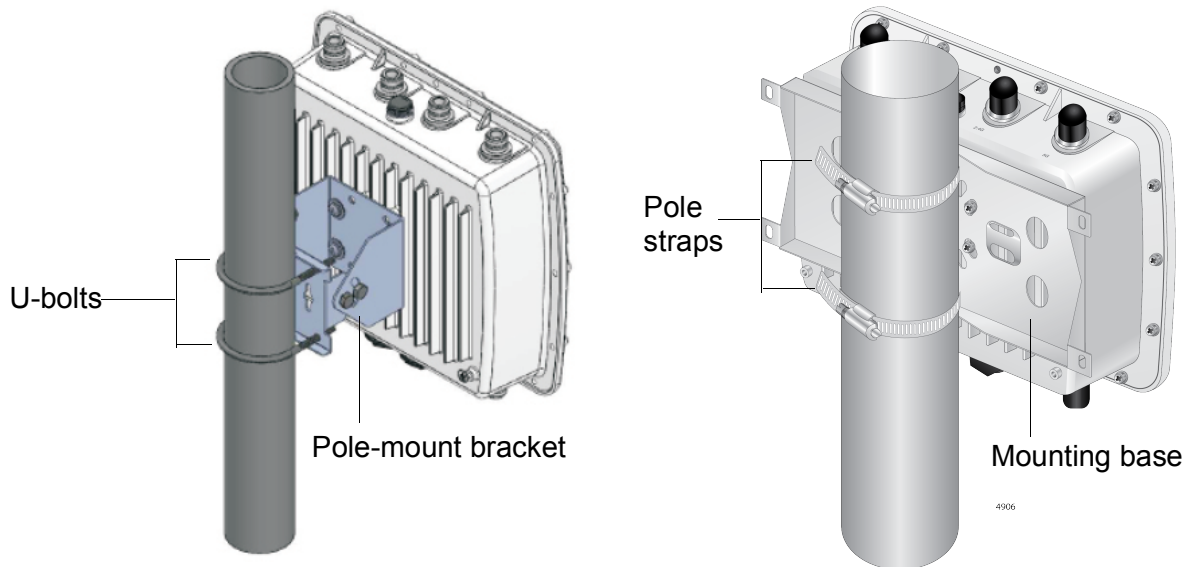

Figure 26. Two Methods of Pole Installations
The TQ5403e access point can be mounted on a pole using either the U-bolts and pole-mount bracket or the pole straps and mounting base. See Figure 26.
- ☐ The access point must be installed with the front panel down, as shown in Figure 26 on page 56.